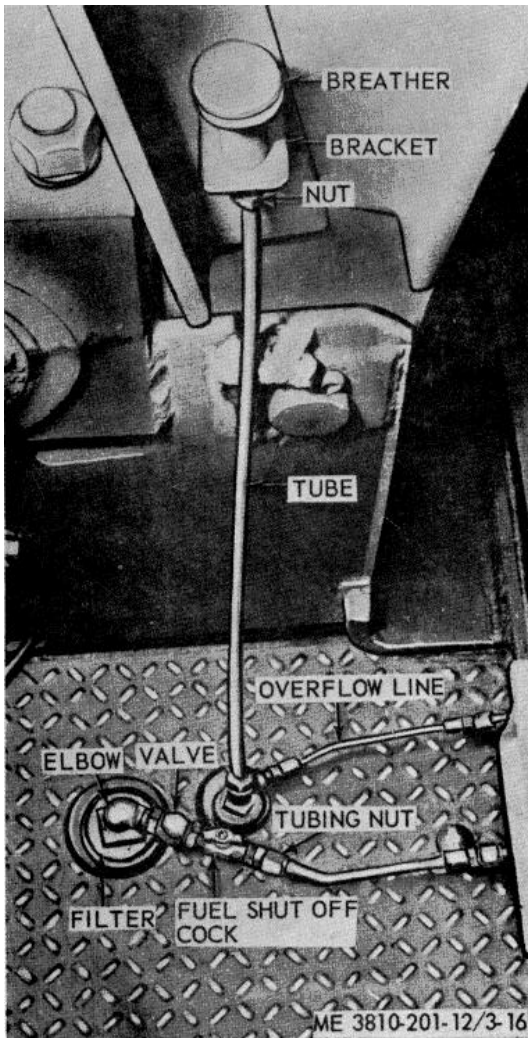

Figure 3-16. Fuel tank breather service, model 855BG3.
(1) Remove breather (fig. 3-16) from coupling by turning counterclockwise.
(2) Clean breather in an approved cleaning solvent and dry thoroughly with compressed air. Be sure that screen mesh of breather is free of all foreign matter.
(3) Install breather on coupling and secure by turning clockwise until tight.